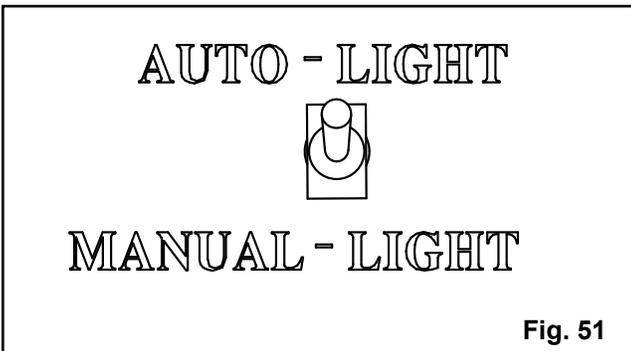

Fig. 51
6. Flip the **Igniter Switch** up into the “AUTO-LIGHT” position, Fig 51.